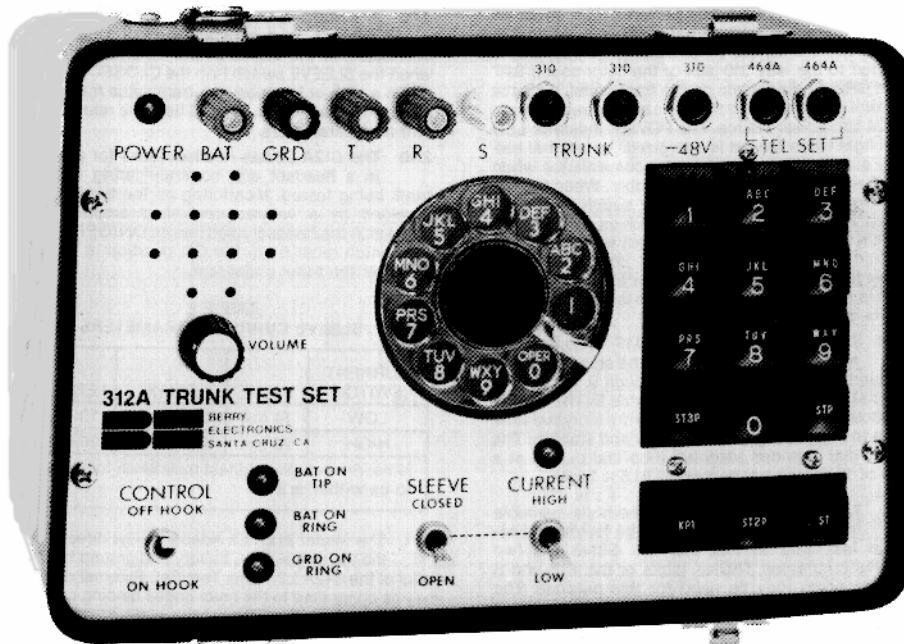
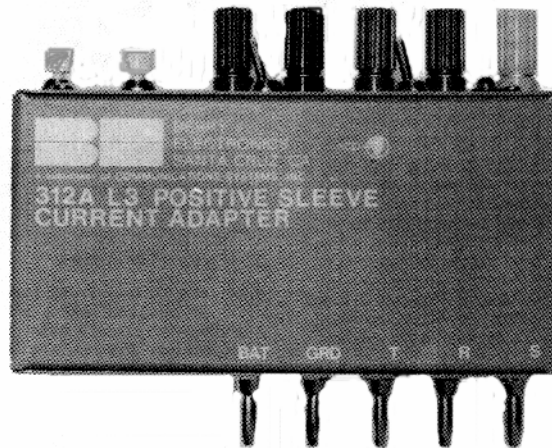

Figure 1. 312A L2 Trunk Test Set
Figure 1A. 312A L3 Positive Sleeve Current Adapter
2.02 A photo of the 312A-L2 is shown in Figure 1. The 312A-L2 is a portable test set with a carrying strap attached and a test cord storage area in the cover of the set. A photo of the 312A-L3 Adapter is shown in Figure 1A. When not in use, the L 3 Adapter fits into the cover of the 312A-L2 Trunk Test Set.